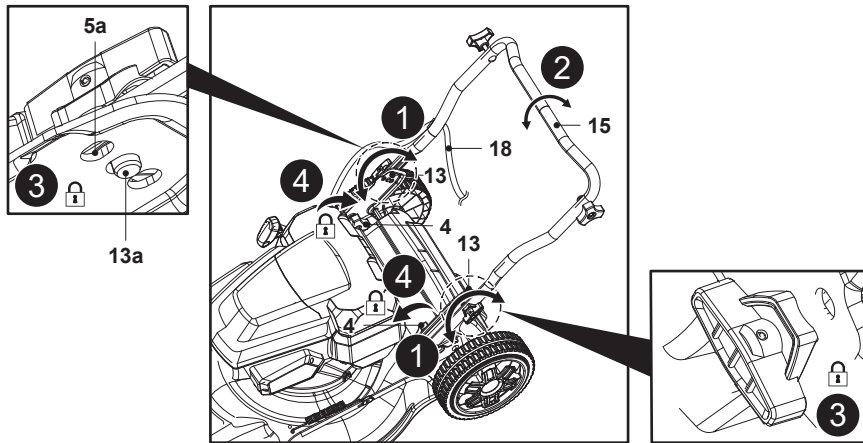

Fig. 2
4. Align the mounting holes (5a, 13a) of one side of the lower handle bar (5) with the handle bracket (13) and turn the locking button (14) 90° back (Fig. 2, step 1).
5. Swing the lower handle bar (5) until the auto-tension pin (14a) passes through one of the mounting holes (13a) of the handle bracket (13) (Fig. 2, steps 2, 3).
6. Repeat the above assembly on the other side of the lower handle bar (5).
7. Tighten the two locking knobs (4) on the handle brackets (13) to secure the connection (Fig. 2, step 4).
8. Make sure that the control cord (18) runs on the upper side of the lower handle bar (5).